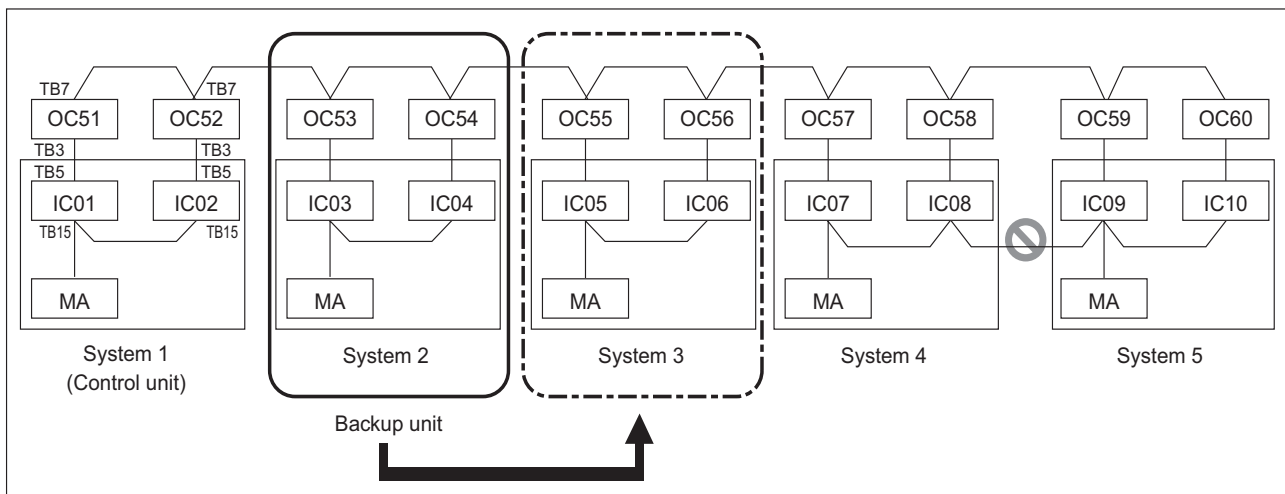

Fig. 8-1 Sample 20HP system group
- 4) Assign sequential addresses to the units as shown below (Fig. 8-1).
- The unit designated as the control unit (System 1 in Fig. 8-1) sends command signals to other units in the group to start or stop, and rotates the backup unit every 480 hours.
(e.g., System → 2 System → 3 System → 4 System → 5 System 1 in Fig. 8-1 below)